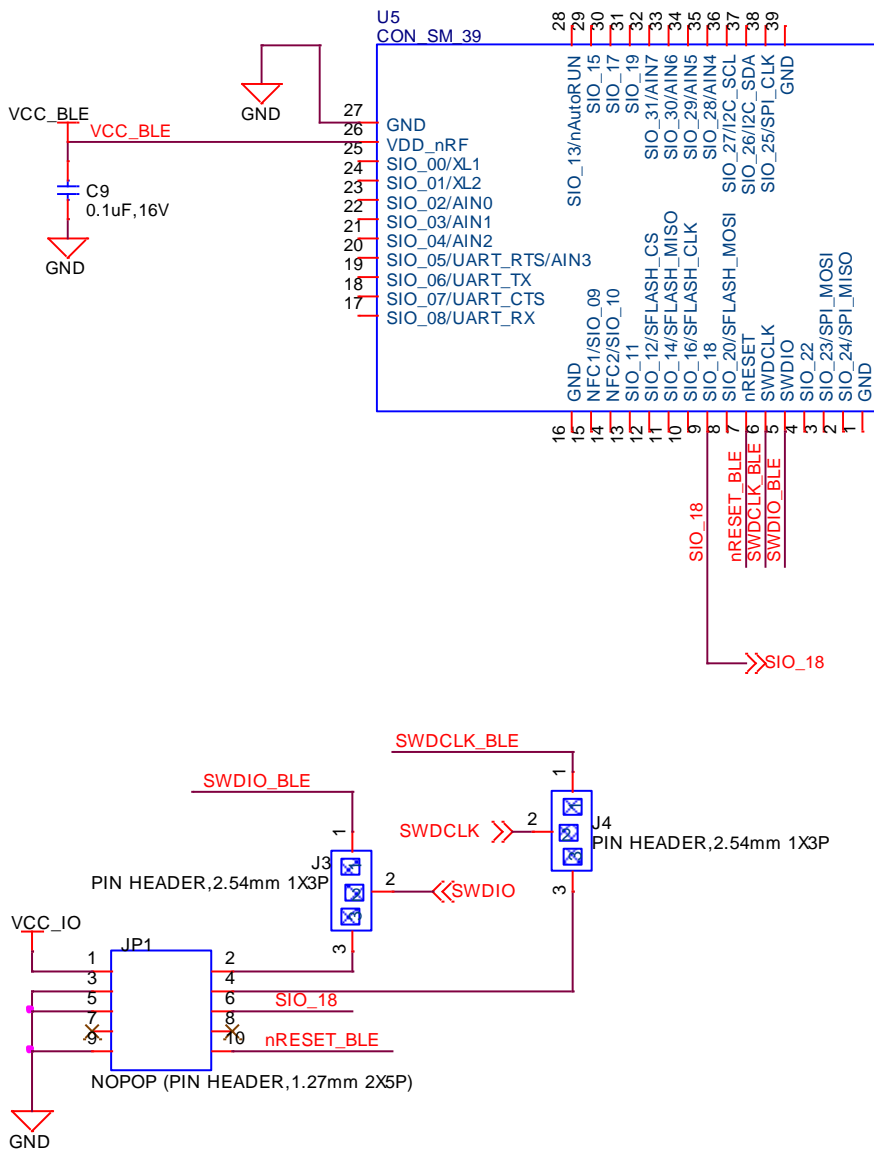

Figure 8: BL652 development board schematic
**Note:** Reference on the BL652 development board schematic (Figure 8) shows the DVK-BL652-xx development schematic wiring only for the JTAG connector and the BL652 module JTAG pins.
Laird recommends you use JTAG (2-wire interface) to handle future BL652 module firmware upgrades. You **MUST** wire out the JTAG (2-wire interface) on your host design (see Figure 8, where four lines should be wired out, namely SWDIO, SWDCLK, GND and VCC). Firmware upgrades can still be performed over the BL652 UART interface, but this is slower (60 seconds using UART vs. 10 seconds when using JTAG) than using the BL652 JTAG (2-wire interface).